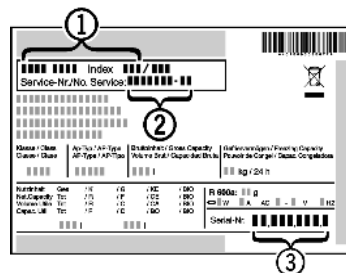

Fig. 70
- ▶ Read off the appliance name *Fig. 70 (1)*, service no. *Fig. 70 (2)* and serial no. *Fig. 70 (3)* from the model plate. The model plate can be found on the inside of the appliance on the left.